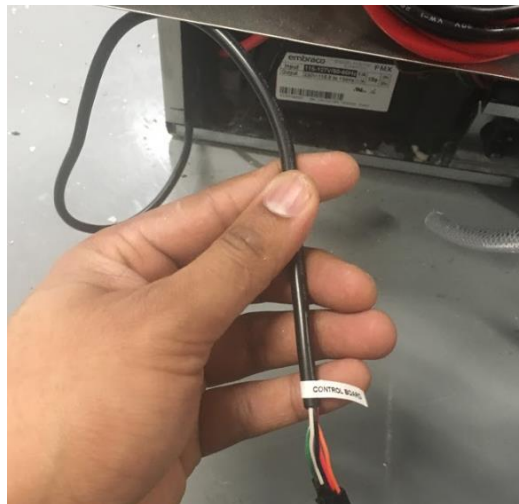

Figure 114: UI Harness routed through Right-Side Cavity.
- v. Fish the wire through the Fridge Cavity and pull the Connector on the UI Harness through the Rear of the Fridge. **See Figure 114.**